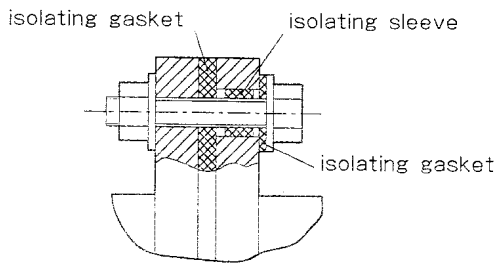
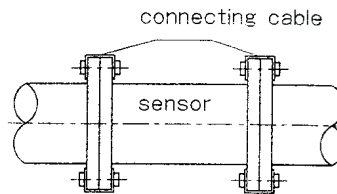

Figure 16. Isolating sleeve and gasket
Figure 17. The connection for sensor
- a) In metal piping, the device is made potential equalization via the connection between the sensor and the adjoin pipe. See figure 16. Using this connection, the current going through the sensor itself should be less than 10aA(virtual value). The bolt connection for flanges can not be instead of the electric connection, it should have an additional electric connection as shown in figure 17.